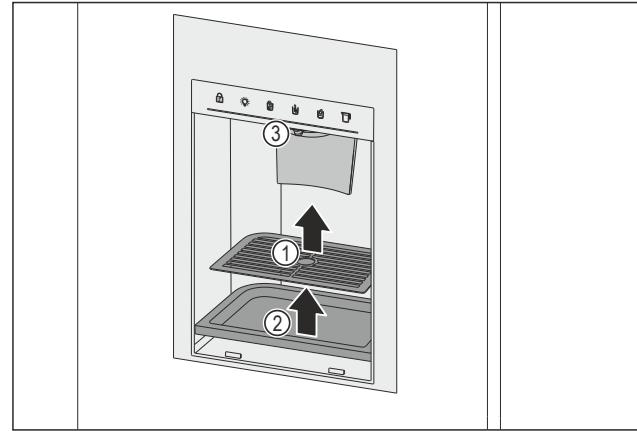

Fig. 159 Removal of drip grid and drip tray
- Remove the drip grid Fig. 159 (1).
- Remove the drip tray Fig. 159 (2).
- Clean the outlet Fig. 159 (3) and surrounding area with a soft, clean cloth, lukewarm water and a little rinsing liquid.